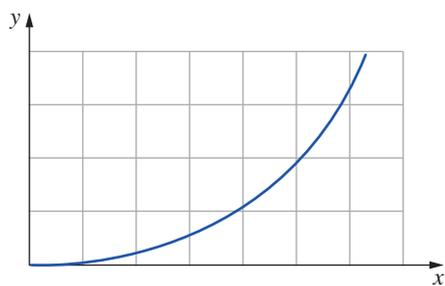

FIGURE 1.4.5 Variables that change in response to each other in a non-linear way
- Variables that change non-linearly in proportion to each other may produce a curved trend line, as shown in Figure 1.4.5. This graph reflects an **exponential relationship**; that is, as x increases, y increases non-linearly. This would correspond to the equation $y = a^x$, where a is a positive number other than 1.